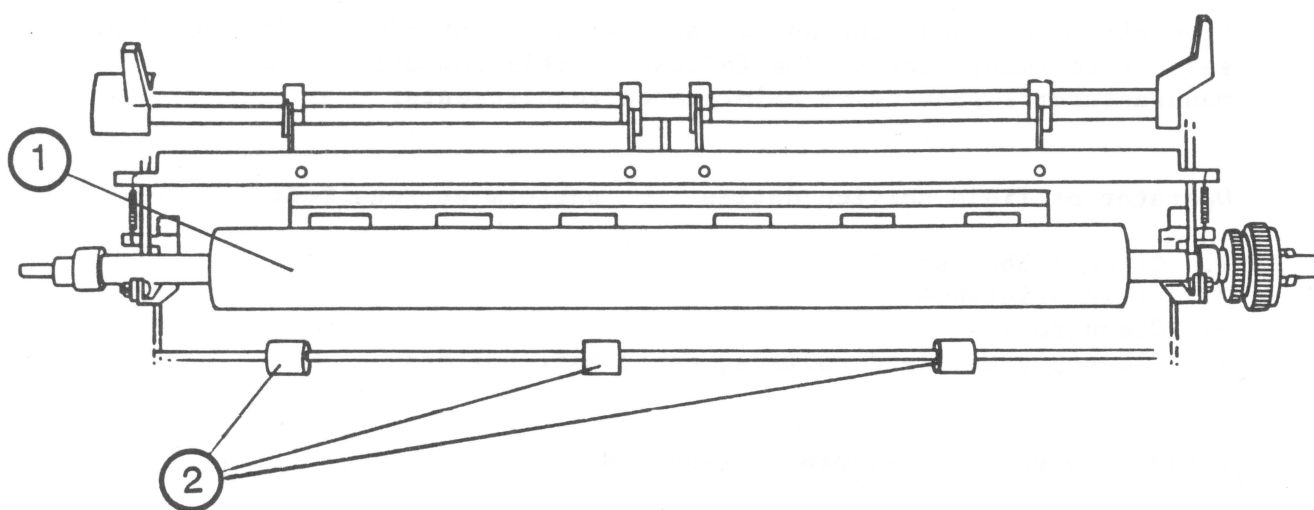
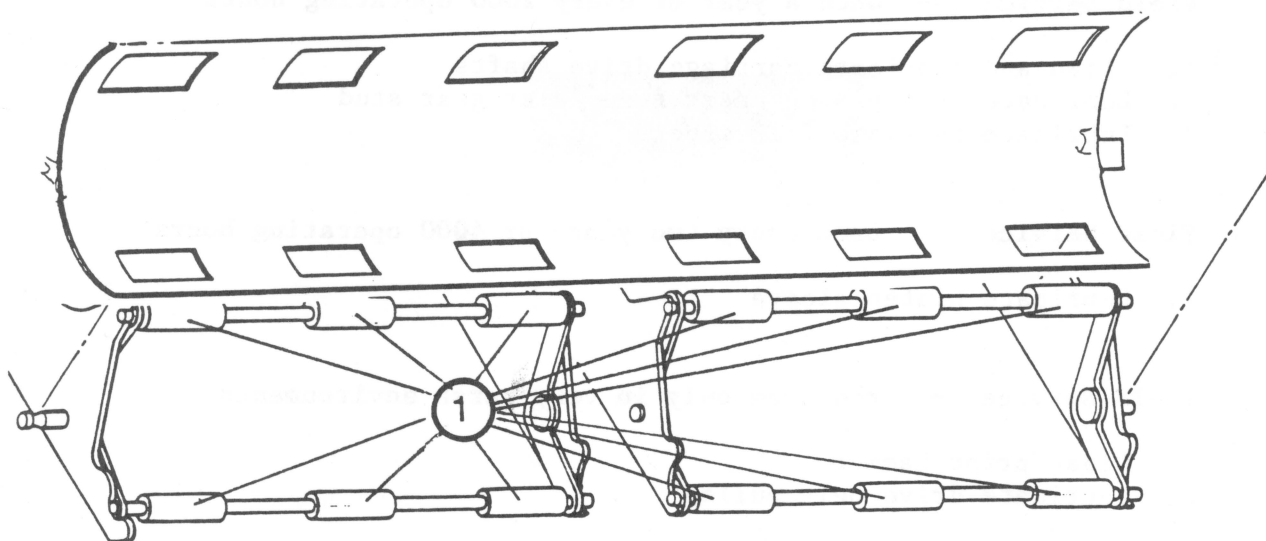

FIGURE 1
FIGURE 2
3. Lift platen cradle out of the way (see Figure 2).
4. Moisten a soft cloth with Fedron platen cleaner and clean platen (Figure 1, #1), paper bail rollers (Figure 1, #2), and feed rollers (Figure 2, #1).